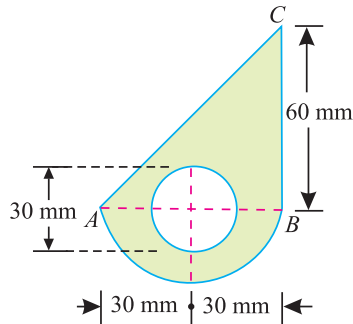

Fig. 7.24.
- Find the moment of inertia of the lamina with a circular hole of  $30 \text{ mm}$  diameter about the axis  $AB$  as shown in Fig. 7.24.